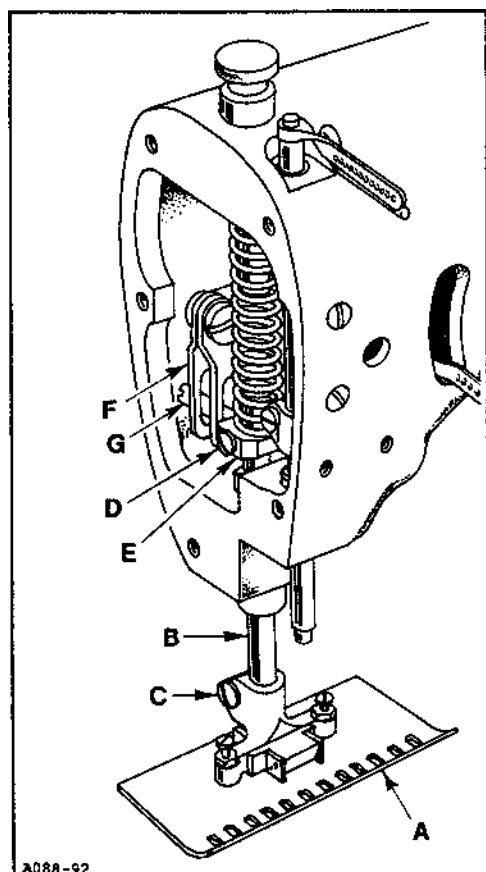

Fig. 13
Assemble presser foot (A, Fig. 13) to presser bar (B). Make sure that presser bar is fully inserted into presser foot shank. Line up the needle slots in the presser foot with the needle slots in the throat plate. Tighten screw (C).